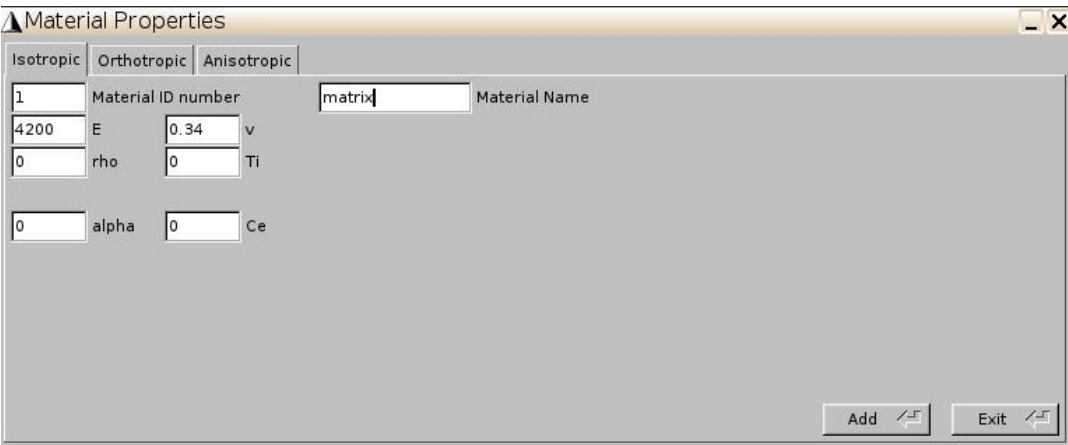
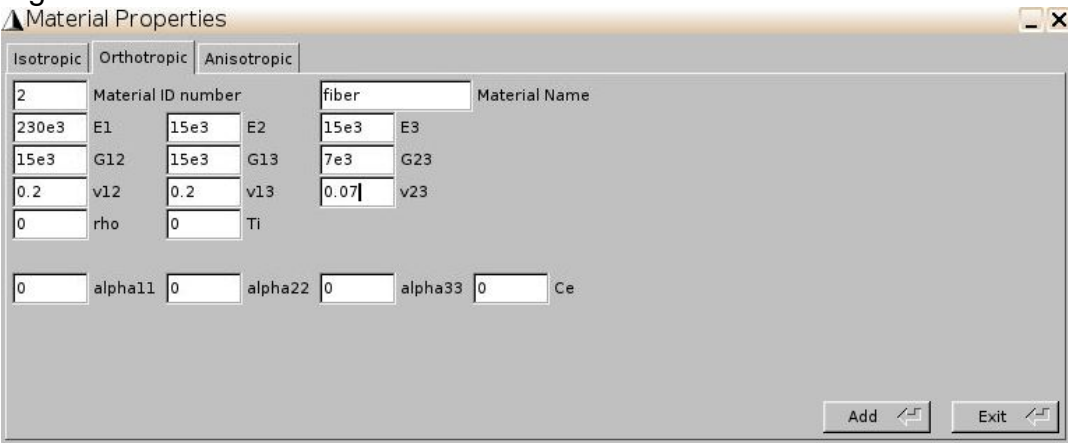

Fig. 3
Fig. 4
- Open Gmsh4SC and create a new model (Change the default name). Click Material->Thermoelastic and input the matrix and fiber properties as shown in Fig. 3 and Fig. 4.